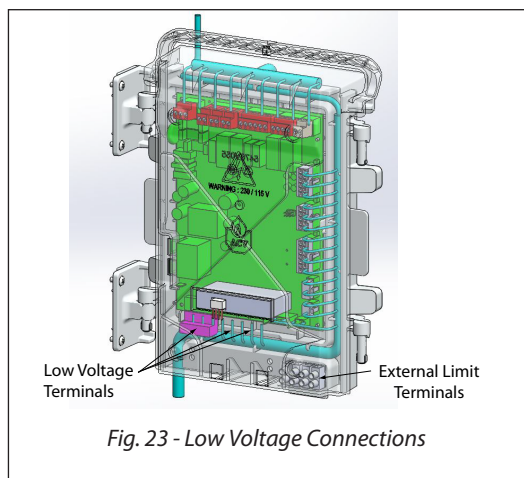

Fig. 23 - Low Voltage Connections
1. Connect the DHW aquastat or temperature sensor wires to low voltage terminals X4-1&2 located at the bottom of the ACVMax control module as shown in **Fig. 23 on page 36**.
3. Connect the external limit wires to the Manual Reset Limit or Auto Reset Limit low voltage terminals located on the lower right corner of the ACVMax control module housing as shown in **Fig. 23 on page 36**.
1. Connect the system temperature sensor wires to low voltage terminals X5-3&4 located at the bottom of the ACVMax control module as shown in **Fig. 23 on page 36**.